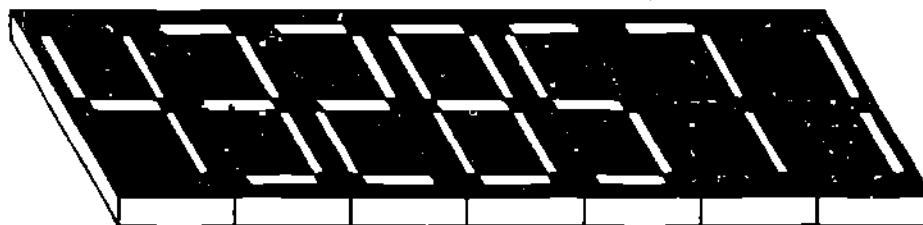

Figure 4
- ⑤ Each LED in a seven-segment display is very small. In fact, the actual size of a display number may be no larger than a standard typewritten number. Several seven-segment displays may be put together into a compact package containing any number of displays per package. Figure 4 shows a package containing seven of these seven-segment displays.
The current drain for each number display in Figure 4 varies with the digit displayed. For example, the number "1" requires two LED's to be lit, and draws about 20 mA of current (10 mA per segment). The number "8" requires about 70 mA of current.
In Figure 4, the number "5" draws about _____ mA of current.